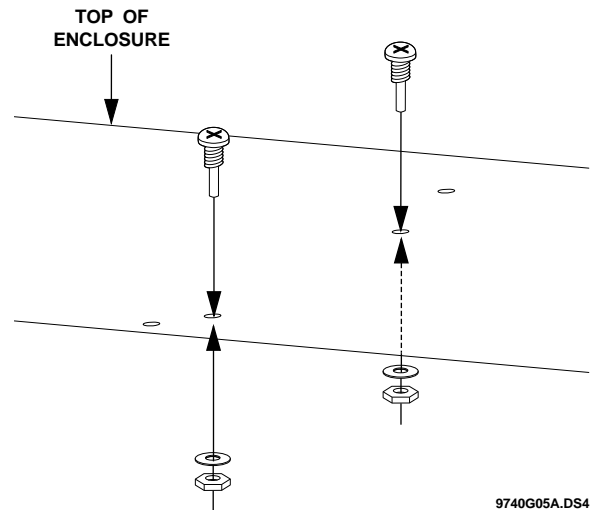

Figure 1. Installing the Ground Plane Screws, Washers, and Nuts
- 1) After mounting the NX-8 cabinet, install the ground plane screws, washers, and nuts (included) in the holes on top of the cabinet (see Figure 1).